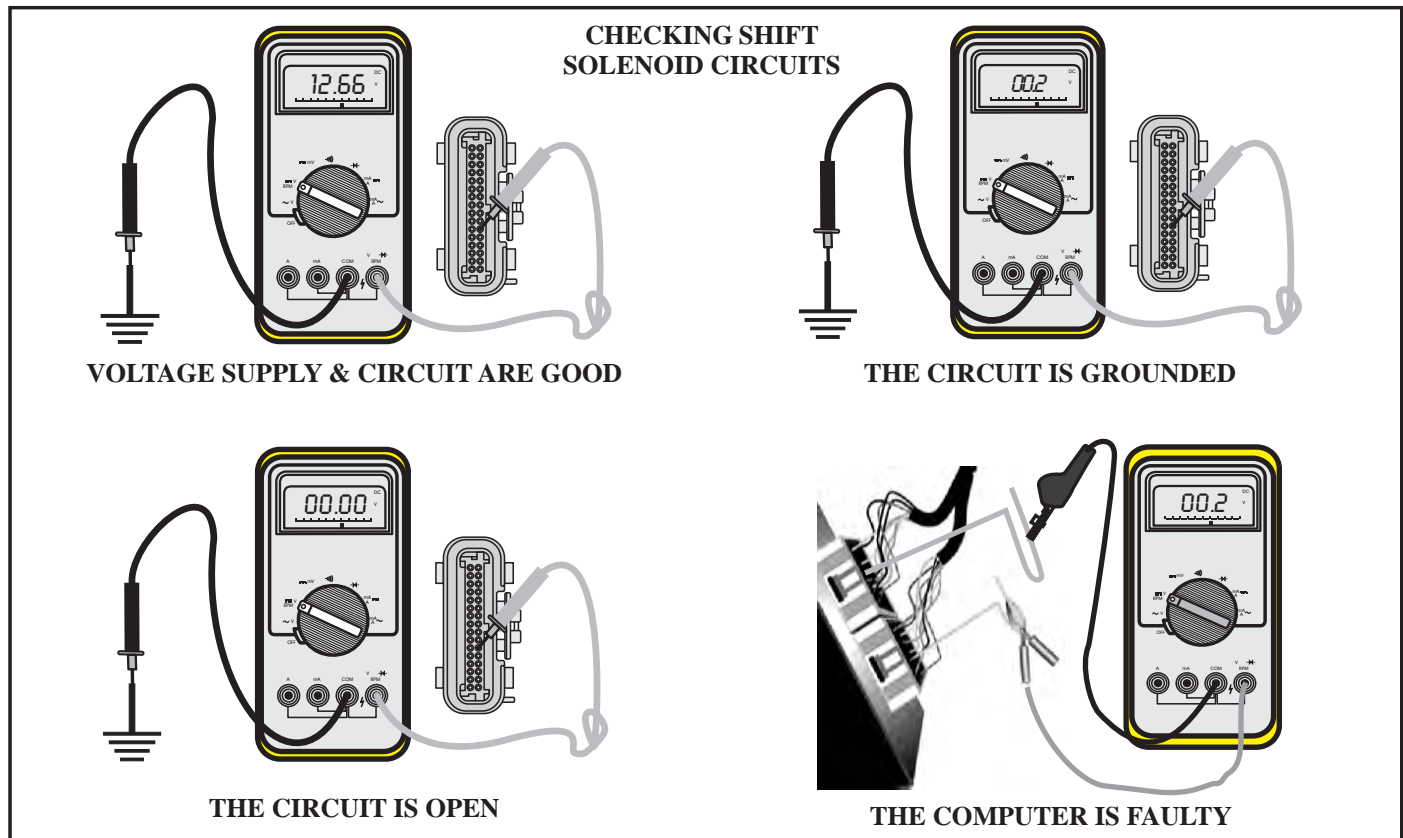

Figure 124
- Referring to Figure 124, unplug the PCM connector containing circuit 1222 or 1223, and with the ignition on, probe the terminal ends for the 1-2 or 2-3 shift solenoid with a voltmeter with the negative meter lead to ground. If the voltage supply at terminal "E" is good and the solenoids and circuit wires 1222 and 1223 are also good, battery voltage will be present at the VCM/PCM connector terminal ends.